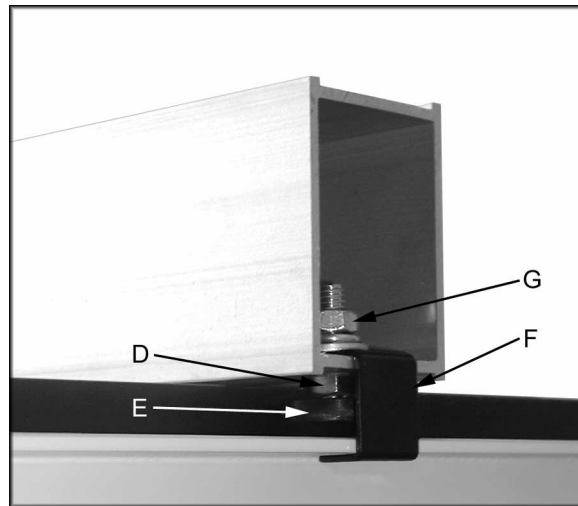

Figure 11
2. Thread a hex nut (D, Fig. 11) onto the pad's threaded stud (E, Fig. 11) and insert through the fence and rear hook (F, Fig. 11). Secure in place using a hex nut, lock washer and flat washer (G, Fig. 11).